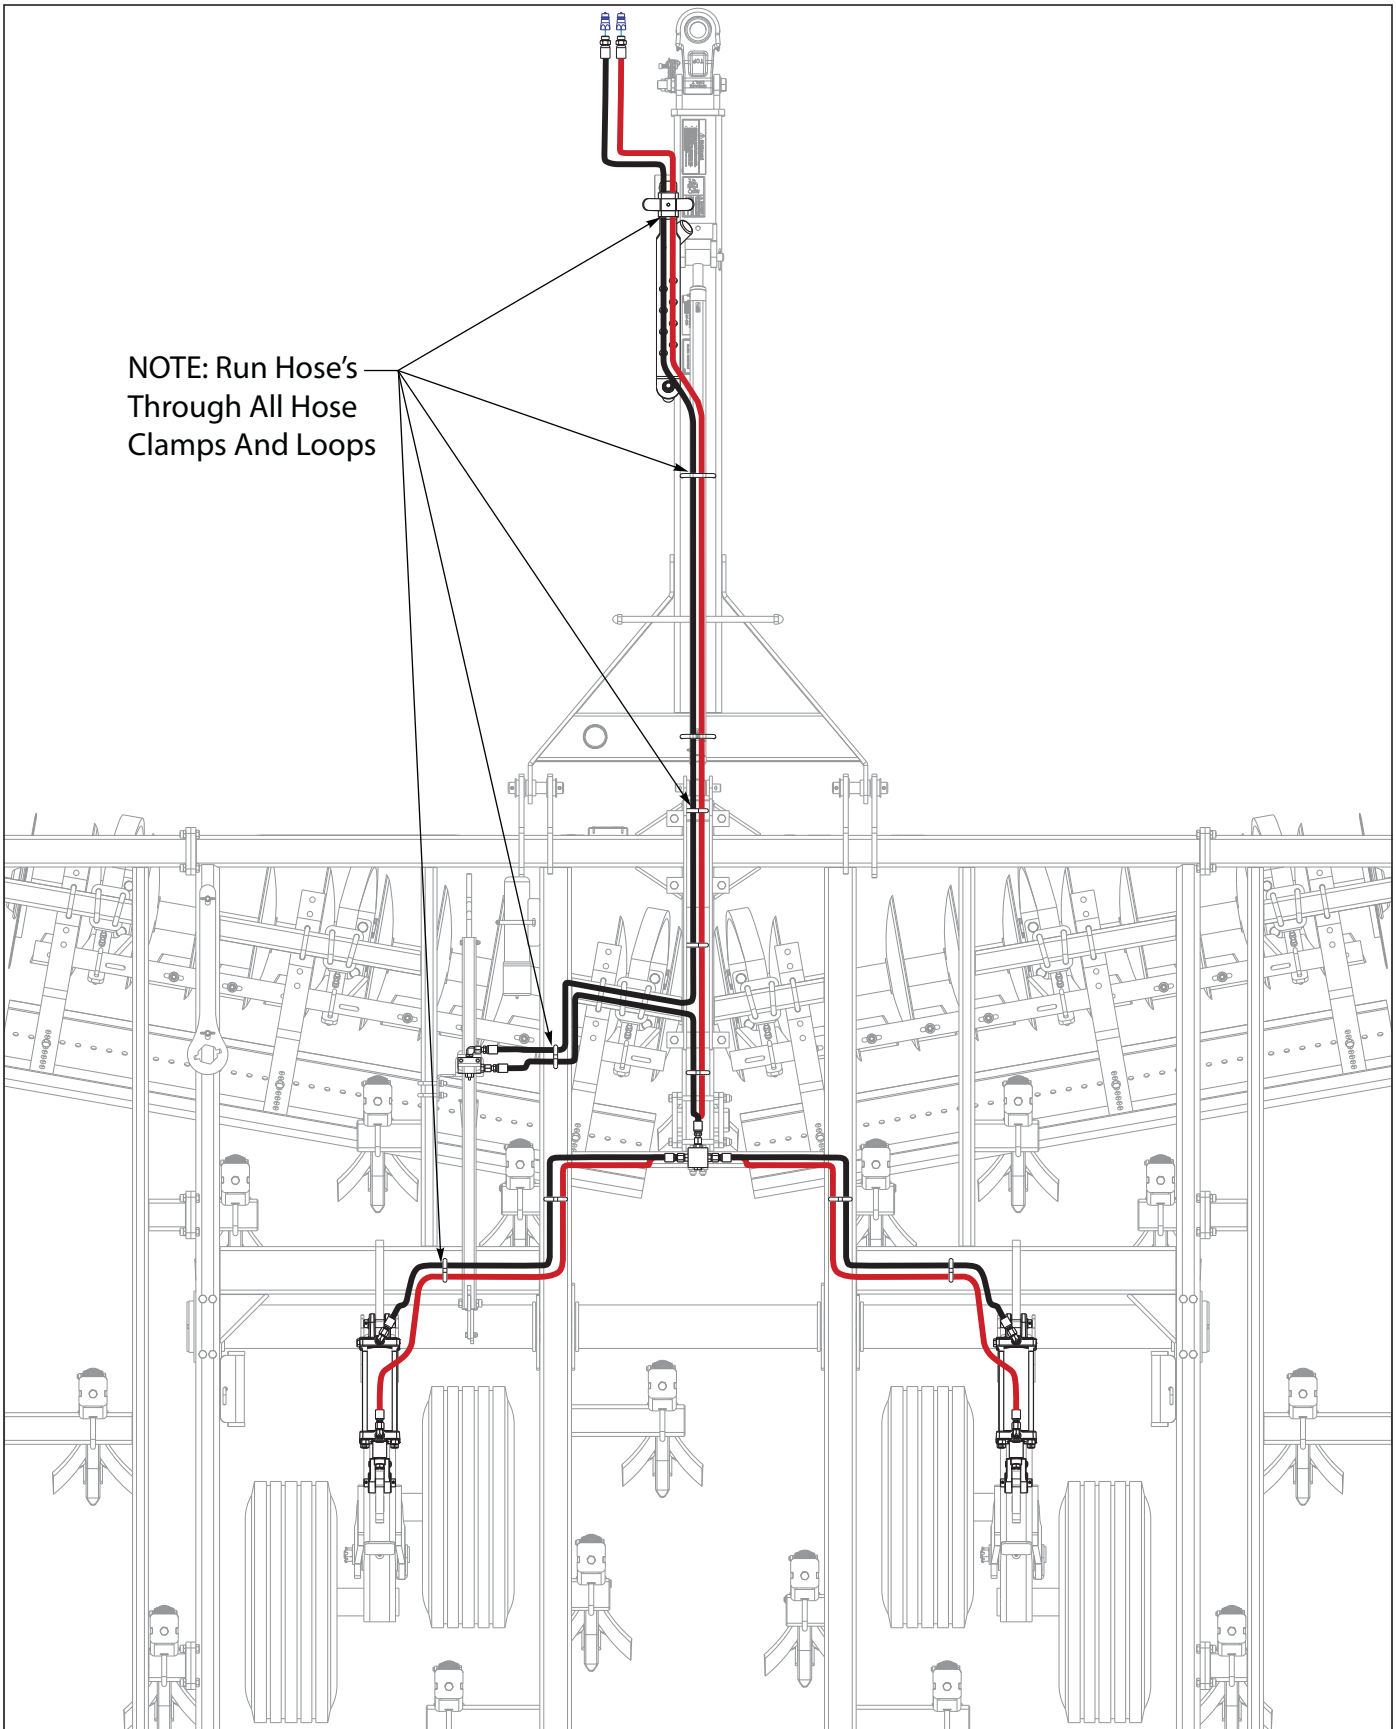

Figure 3-7: Lift Hydraulic Placement LH 877-15'
See Figure 3-7 for proper Hydraulic Lift placement for 877-15'.
4. Install lift cylinder hoses and couplers See Figure 3-7. Wrap lift cylinder hoses with blue hose wrap.